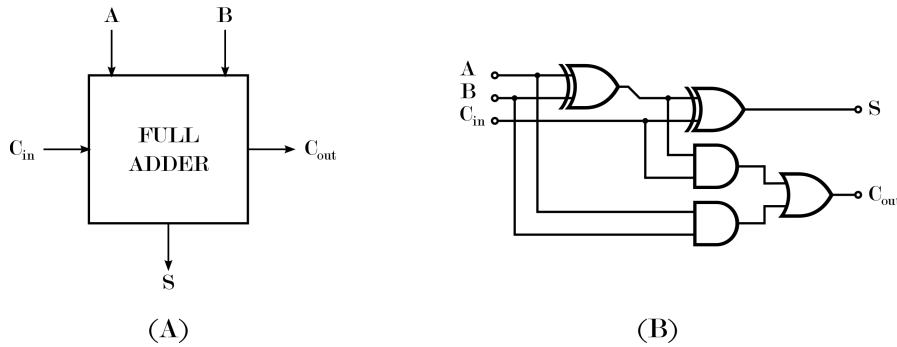

Figure 3.1: (A) Full Adder block representation. (B) Implementation details of the full adder.
- Use **explanatory images/graphs/schemes** since they are an effective way to explain something that can be complex to describe using only words. Use “**hierarchical**” images that means: draw first a generic block scheme and then depict the details of what’s inside each block (see as example figure 3.1). Choose the image size in such a way that every